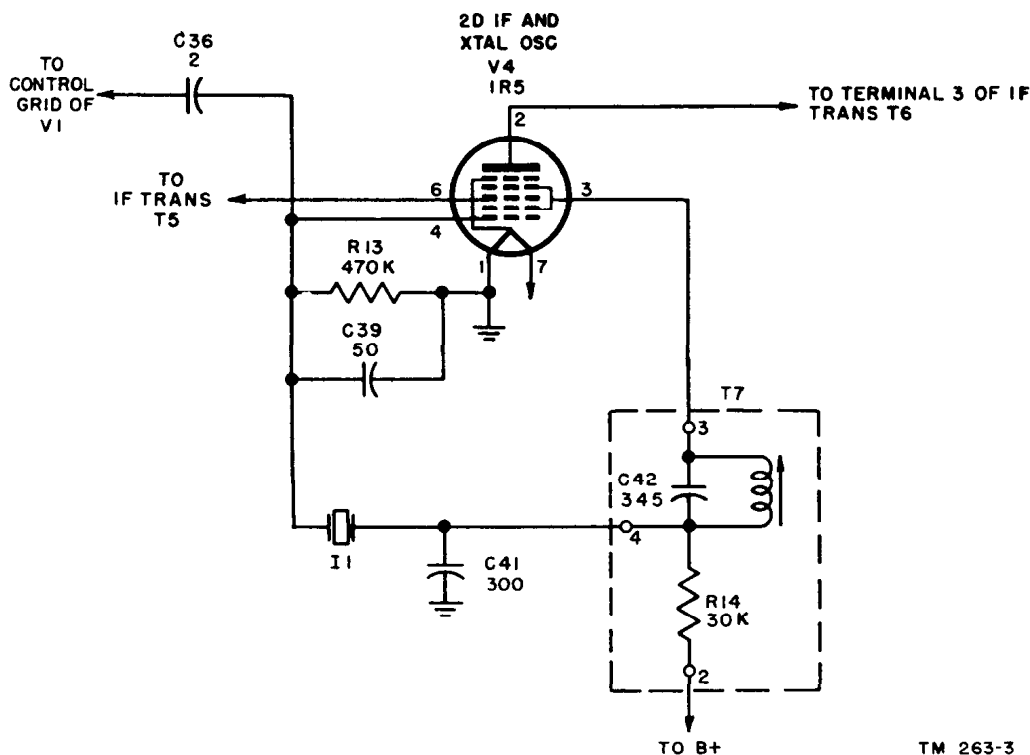

Figure 61. Crystal calibrator oscillator, simplified schematic diagram.
91. Crystal Calibrating Circuit (fig. 61)